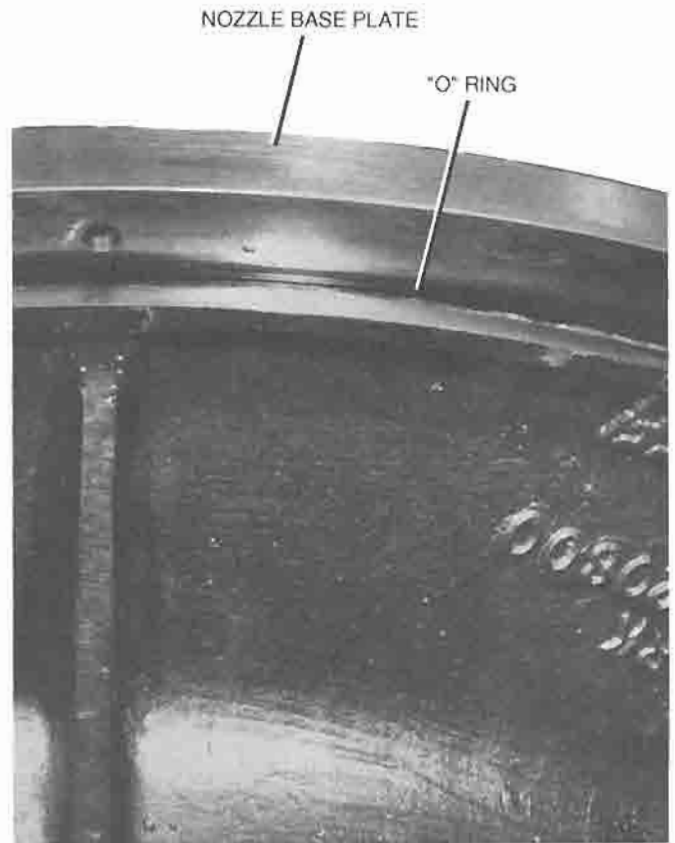

FIG. 40 – NOZZLE BASE PLATE
1. Install a new "O" ring on the nozzle base plate. (See Fig. 40)